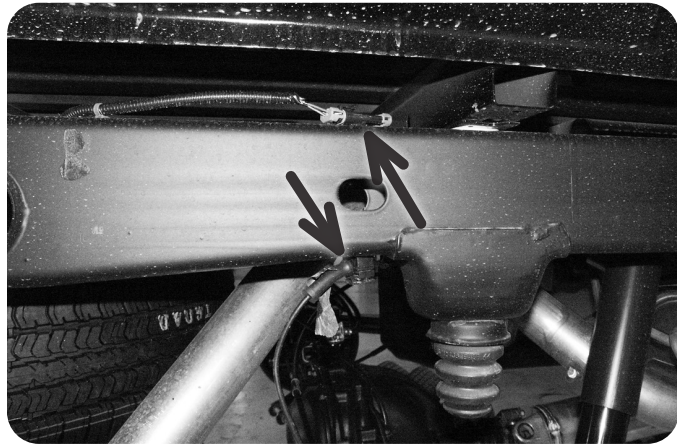

Figure 22
5. Remove the ABS lines from the retaining clip on the bottom of each frame rail. Also disconnect the ABS line connector from the top of the frame rail Figure 22.